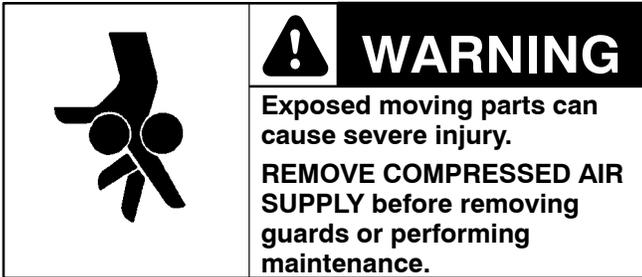

Figure 46
3. Swing down idler guard assembly (AP of Figure 46).